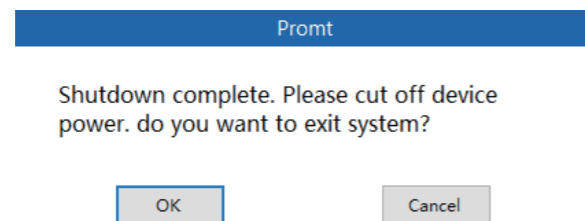

Figure 6.15-3
- Click "OK" button, the analyzer will perform the shutdown process. After the shutdown process is completed, the system prompt will pop out, as shown in figure 6.15-3.